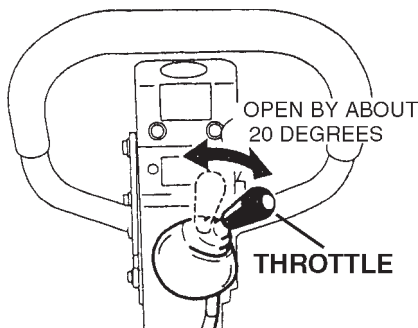

Figure 8. Throttle Lever (Start Position)
2. Move the throttle lever to the **START** position by opening it to about 20 degrees (Figure 8).